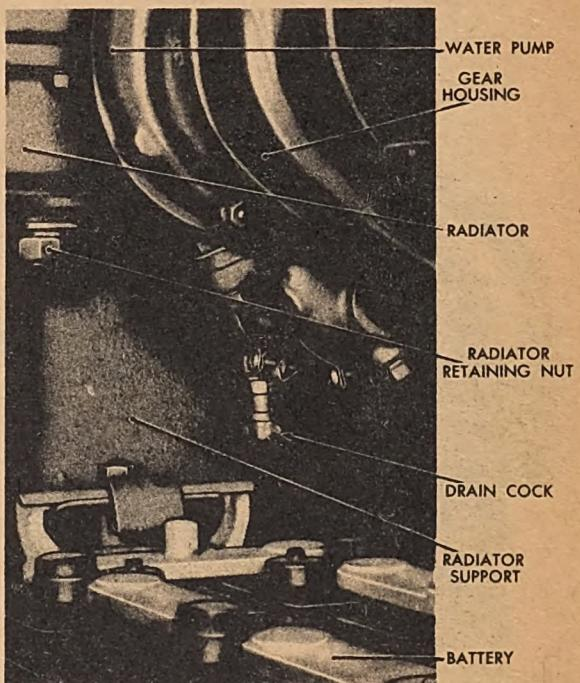

Fig. 48. Radiator Support and Drain Cock
(3) Disconnect the battery ground lead at the crankcase and disconnect the battery jumper lead. Remove the lead from the battery to the magnetic switch. Also remove the leads between the magnetic switch and engine control panel.
(4) Remove the radiator support rod. Remove the hose clamp and cut the hoses from the connections. Remove the fan guard, and remove the radiator retaining nuts (see Figure 48), and, with a chain hoist, lift the radiator off its supporting base and discard the rubber mounting pads which should be replaced with new ones during reassembly.
(5) Disconnect and remove the fuel lines from the tank and remove the engine fuel tank.
(6) Disconnect the engine controls and wires between the engine and engine control panel.